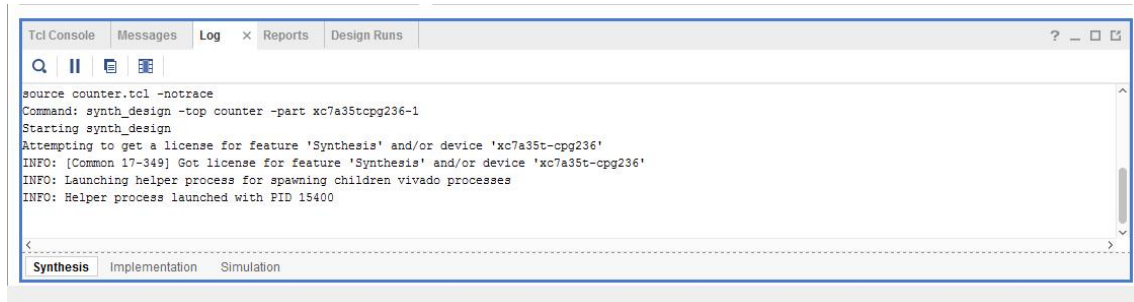

Figure 17
4. Check the **Log** window at the bottom of the main window to follow synthesis evolution (Figure 17)